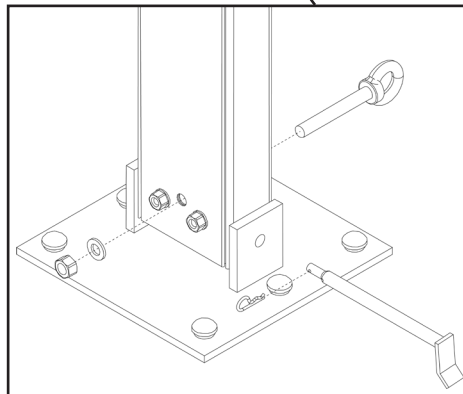

Figure 3.4a
- 3.4.1 The Upright Cables connect to the base of the upright by inserting an Eyebolt attached to the loose end of the cable assembly thru the top hole in the base of the upright as shown in **Figure 3.4a. IMPORTANT:** Install the Ground Rail Holding Plate on Glabe End face of main upright before installing to washer and not to the cable eyebolt. Secure the Eyebolt with the washer and nut provided. Adjust the tension of the cables using the turnbuckles, tension only enough to make frame stable. After the Upright Cables have been installed and tensioned, remove the Diagonal Beam Braces.